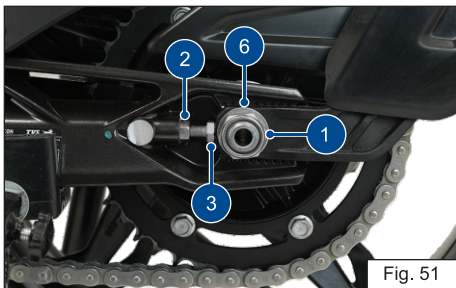

Fig. 51
- ◆ Loosen the rear axle nut (1) using a proper spanner from the tool kit (ref. Fig. 51).
- ◆ Release the lock nuts (2 & 3) (ref. Fig. 51 & 52) using proper spanner from the tool kit (ref. page 134).
- ◆ Turn the adjuster screws (4 & 5) 'in' or 'out' to obtain the specified slackness in the chain (ref. Fig. 51 & 52).
- ◆ Similarly, tighten the rear axle nut and lock nut to the specified torque, and check and ensure the chain slackness (ref. Fig. 51 & 52).